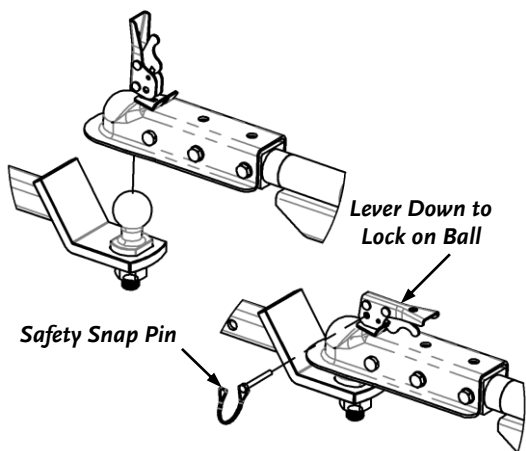

Figure 41
4. Attach the Trailer to your Tow Vehicle using a 2" Ball, making sure to properly latch the Coupler, and locking it with the supplied Safety Snap Pin (**Figure 41** on next page). The trailer may need to be raised or lowered during this process. (See Figure 18B on page 13 for operating instructions) After the Trailer is attached, remove the Wheel Chocks.